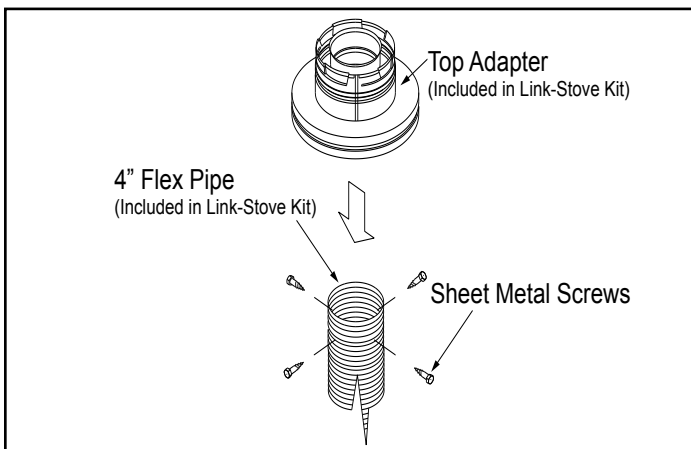

Figure 5.24
3. Connect the end of the flex pipe section to the underside of the top adapter, using four sheet metal screws (Figure 5.24).